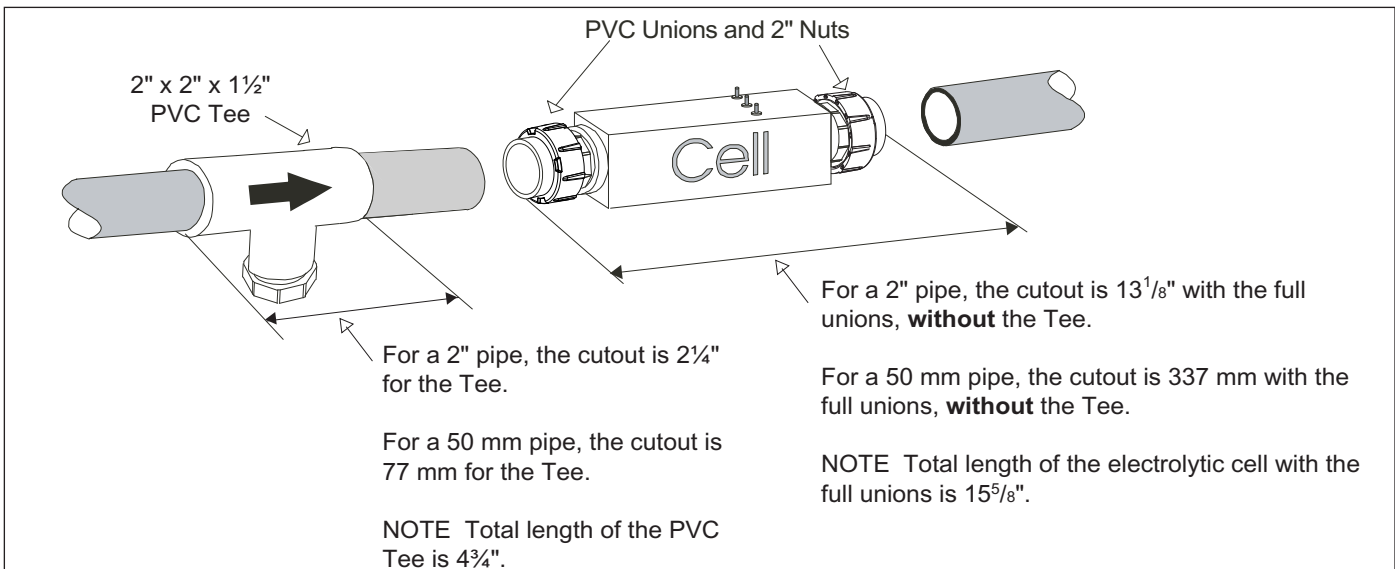

Figure 14. Pipe Cutout
5. Cut out a 13¹/₈" (337 mm) section of the 2" (50 mm) pipe to insert the Cell. Cut an additional 2¹/₄" to insert the Flow/Temp/Salinity Sensor Assembly (see Figure 14).